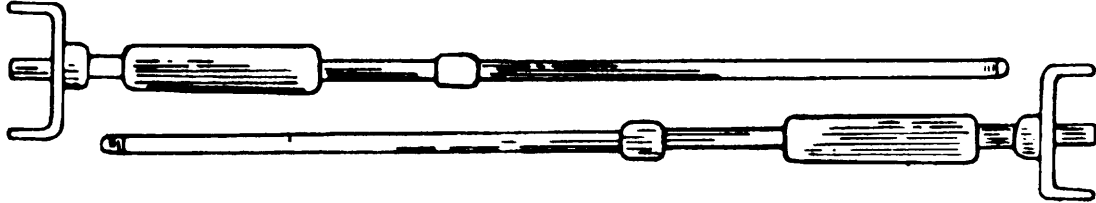

Figure 1-18. Ground Rod.
**1-23. GROUND ROD.** (Refer to Figure 1-18.)